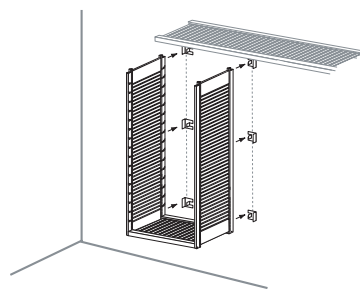

FIG. 3.4
5. Position Tower into Tower Bracket locations on wall. (Fig. 3.4)